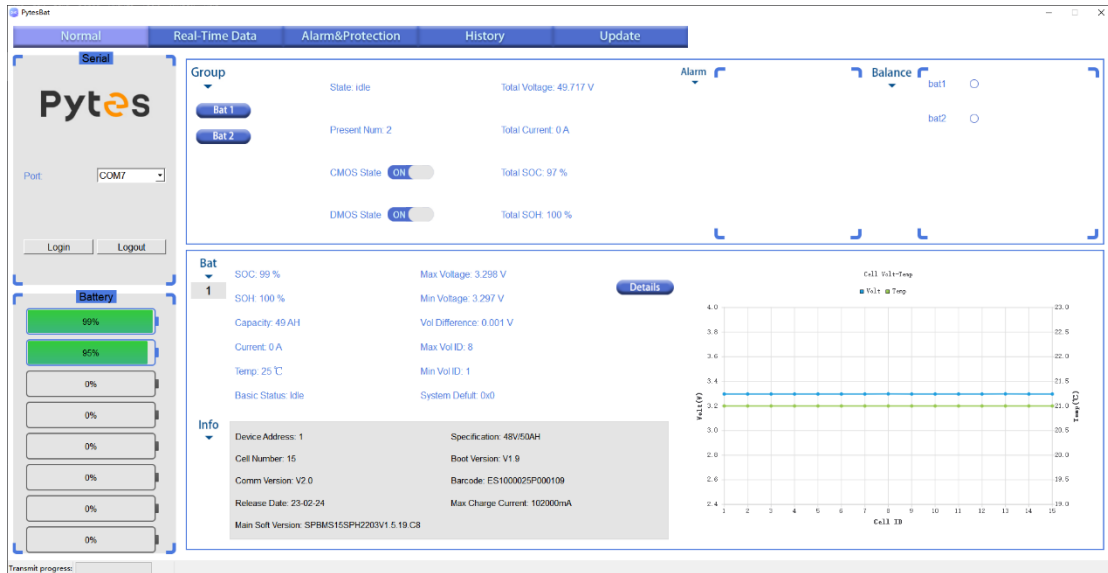

Figure 2
User should choose the right COM **Port**. Then, click **Login** button to connect the battery with your PC. The program would start to retrieve the information of battery in real time as shown in Figure 2. Click **Logout** to disconnect.
6. Normal page (Figure 2)